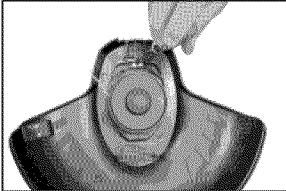

Figure 6 - Insert mounting screw
4. Insert mounting screw into hole nearest tabs in cutting guard. Tighten screw firmly. (See Figure 6)